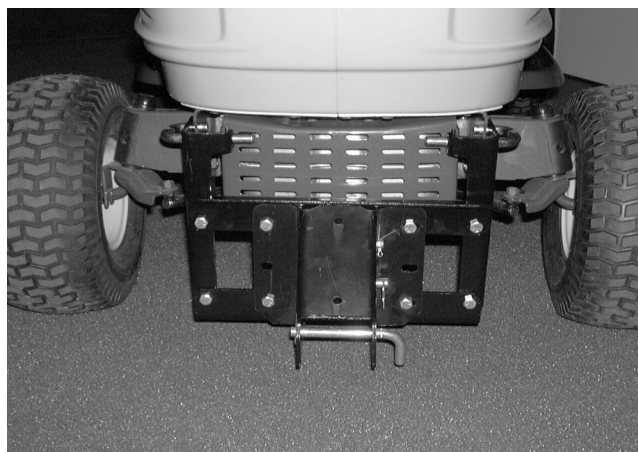

FIGURE 7.
9. Remove the channel pivot pin, washer, and hairpin clip from the pivot support bracket. See figure 7.